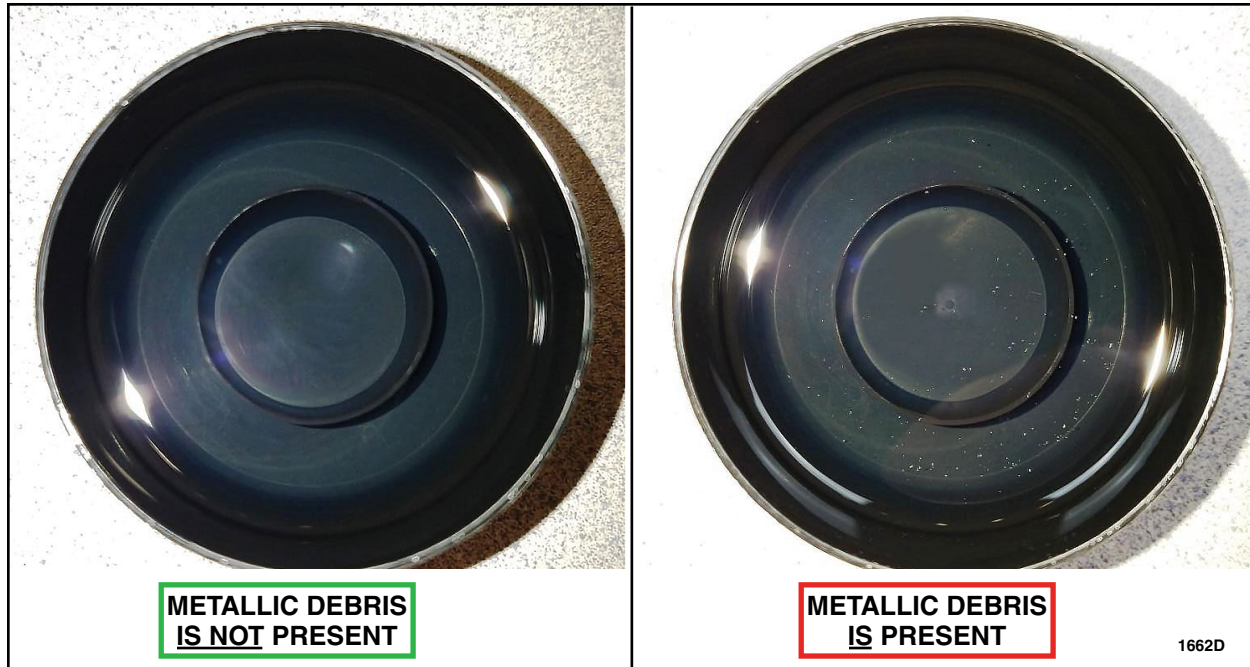

FIGURE 2
3. Inspect the fuel sample for the presence of metallic debris. See Figure 2.
NOTE: If metallic debris is present in the fuel sample it will settle to the bottom and look like fine metallic dust throughout the sample. See Figure 2.
NOTE: Figure 2 may have poor definition and/or appear dark when printed. It is recommended to view Figure 2 on a computer screen when comparing against fuel samples.